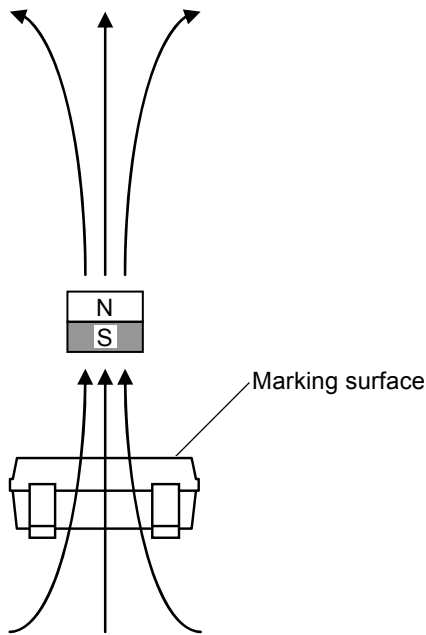
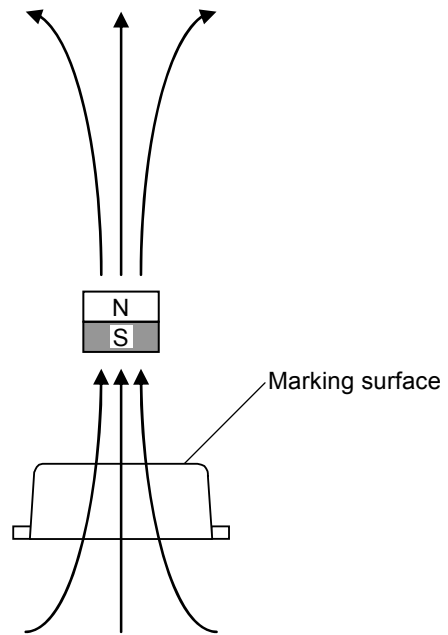

Figure 12
Figure 13
**Figure 12** and **Figure 13** show the direction in which magnetic flux is being applied.